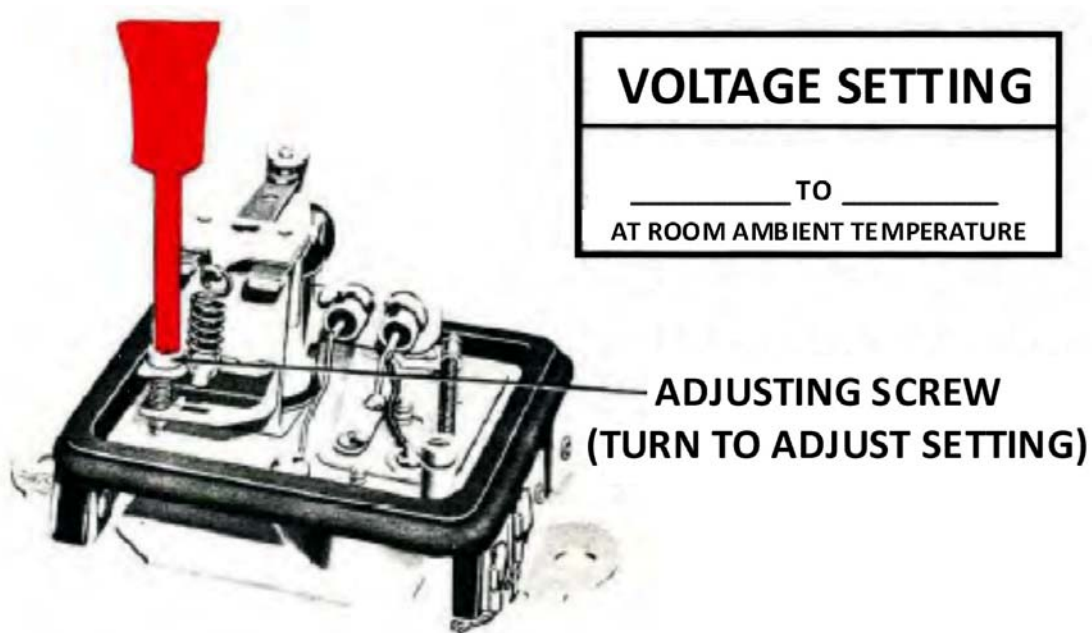

Figure 36
1. To adjust the voltage setting, remove the regulator cover and turn the voltage adjusting screw located on the back of the voltage unit. (Fig. 36).